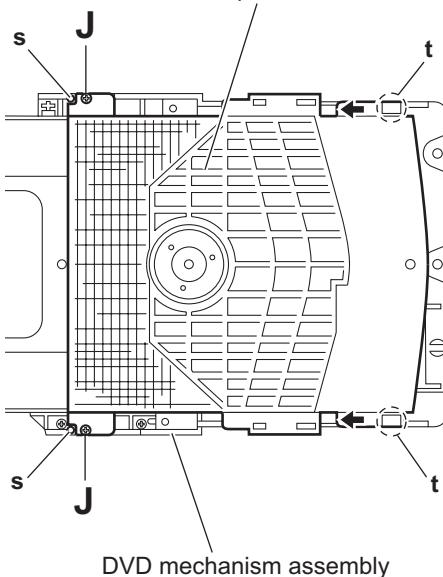

Fig.12
- (4) From the top side of the DVD mechanism assembly, remove the two screws **J** attaching the clamper base. (See Fig.12.)
- (5) Lift the clamper base in an upward direction to remove it from the engagement sections **s** and remove the engagement sections **t** in the direction of the arrow. (See Fig.12.)